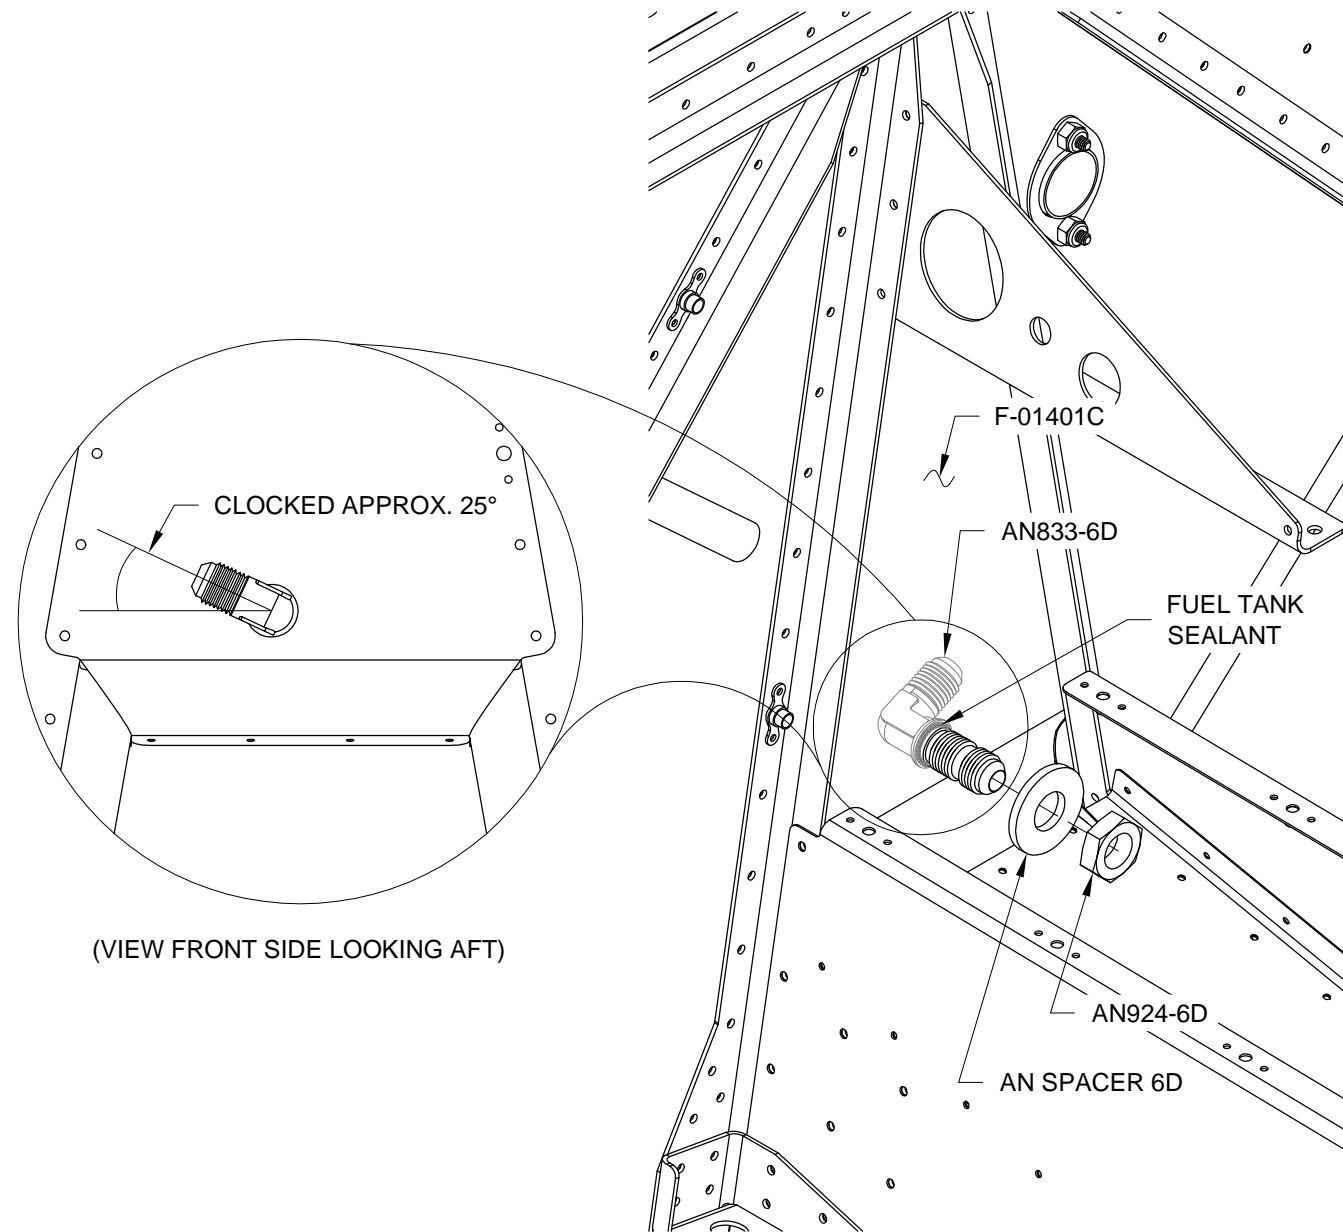

FIGURE 1: FIREWALL ELBOW
Step 1: Apply fuel tank sealant to the flange of an elbow fitting where it will mate with the forward face of the F-01401C Firewall Center as shown in Figure 1.
Step 2: Install the elbow fitting through the hole in the F-01401C Firewall Center as shown in Figure 1.